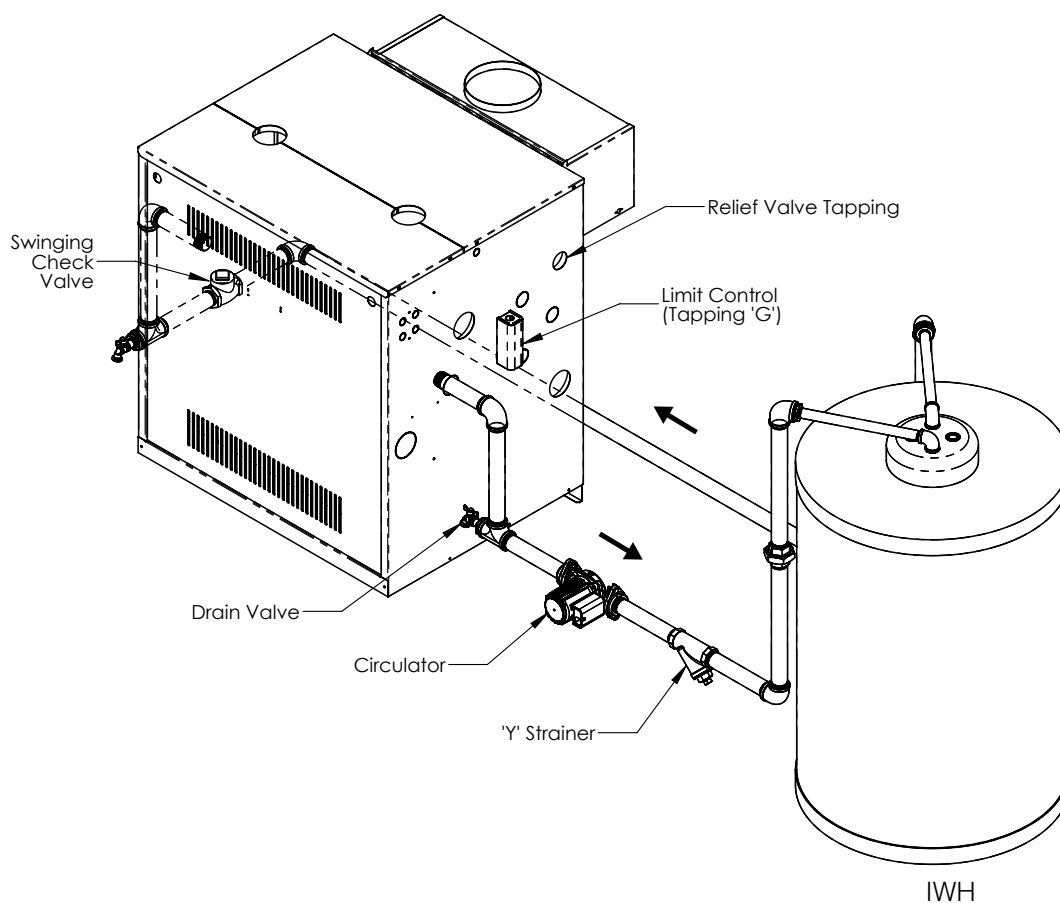

Figure B-1: Indirect Water Heater (IWH) Piping
1. Circulator - Mount circulator as shown in Figure B-1. Circulator should be located as low and as close to boiler as practical. Do not install valves, or other devices having a significant pressure drop, between boiler and circulator inlet. All piping between boiler and circulator inlet should be 1-1/4", regardless of piping size required in rest of the system.